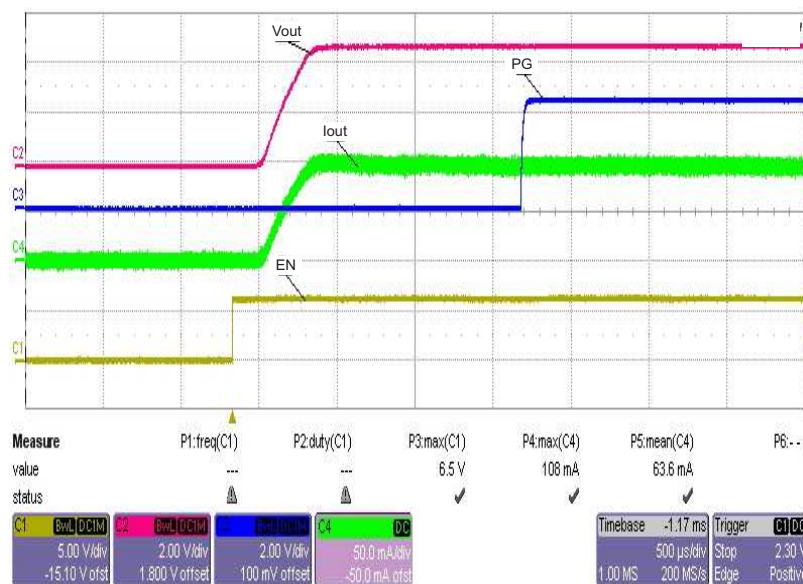

Figure 3. Power Good Operation
Figure 3 shows the operation of the Power Good (PG) output. Vin (6 V) is present and the chip is enabled (c1, gold). The PG output (C3, blue) goes HIGH approximately 1.5 ms after Vout (C2, red) goes into regulation.